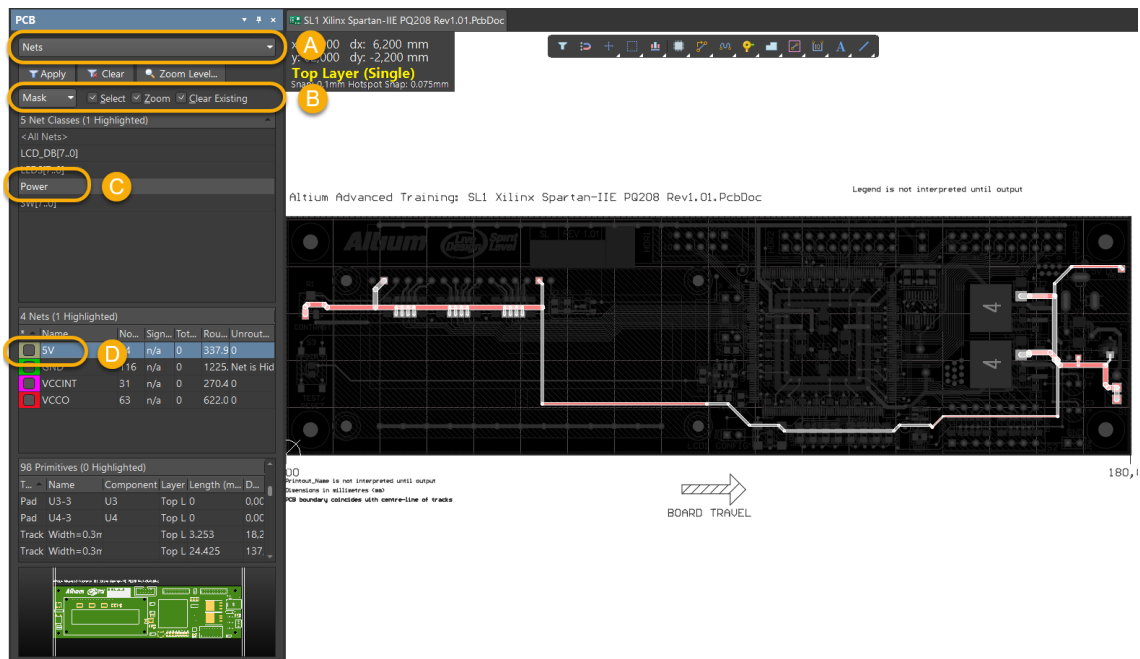

Figure 25. 5V Net
- f) In the PCB, you can now see the selected 5V net, as seen in Figure 25.